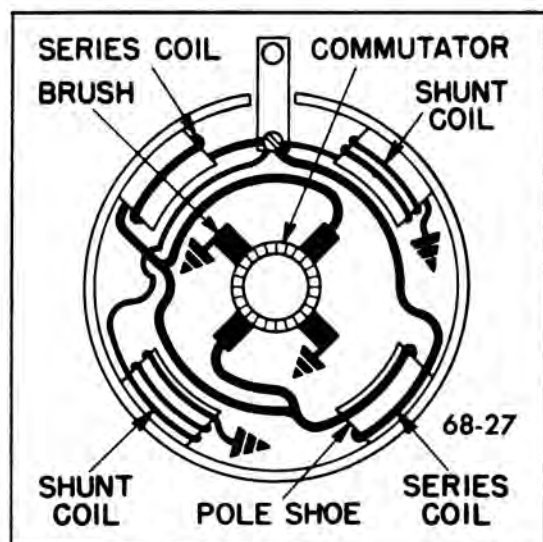

Figure 68-21—Starting Motor Internal Circuits - 400-430 Engines
The large V-8 cranking motor has two parallel field coils connected to the insulated brushes, and two shunt field coils connected to ground. The purpose of this design is to increase starting torque. Heavier field and armature windings help accomplish this. The additional shunt field is required to control free speed of the motor. See Figure 68-21.
4. Remove two screws holding solenoid to drive housing and remove solenoid. Remove small nut and insulating washer from the solenoid "S" terminal. Remove large nut and insulating washer from the solenoid battery terminal. See Figure 68-21 or 22. Then, remove two screws that attach switch cover to solenoid and remove cover for inspection of switch parts.